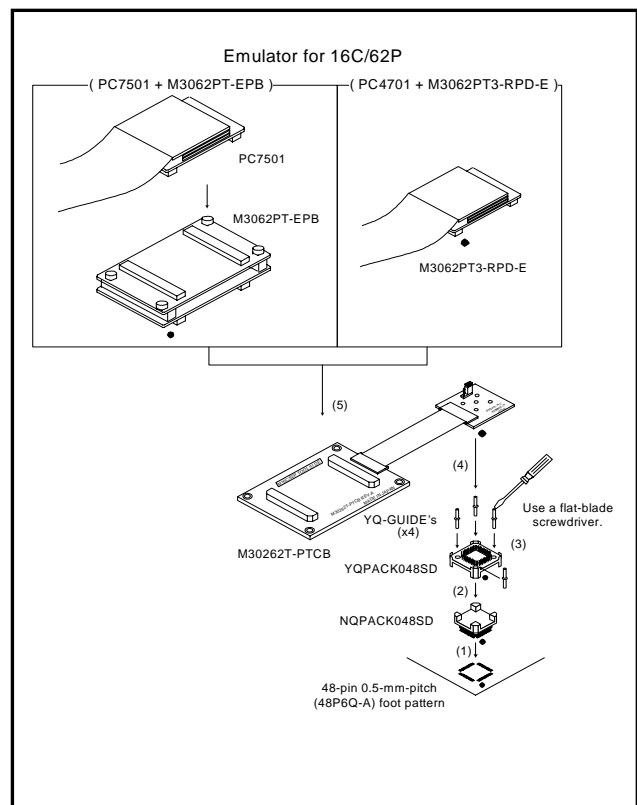

Figure 4 Connection Procedure
6. Connection Procedure (see Figure 4)